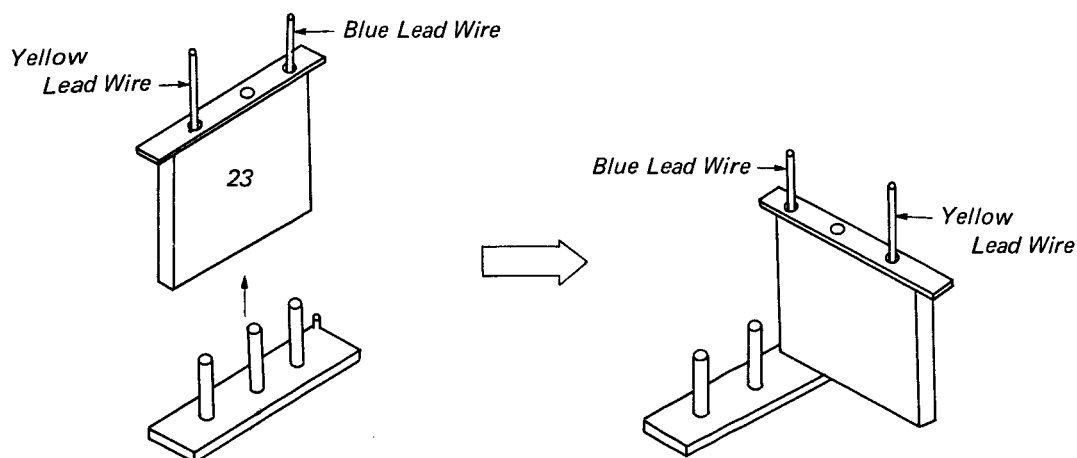

Figure 24.
1. Disconnect the miniconnector No.23 on the Control PC Board, and connect only the blue lead wire. See figure 24.